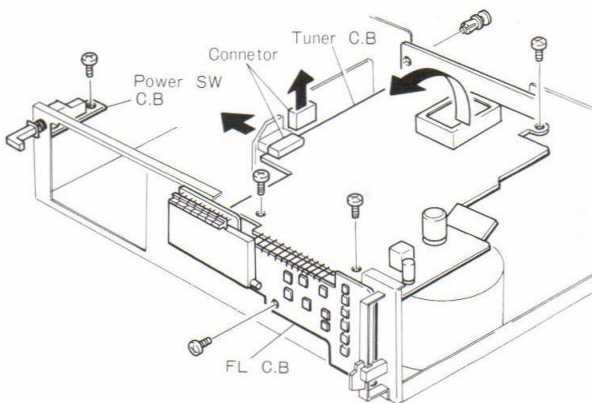

Fig. 3
- 1) Remove the 3 screws, single rivet and two connectors. (See Figure 3)
- 2) Remove the screw and detach the power switch by removing the mounting screw to separate the tuner circuit board and FL circuit board with together. (See Figure 3)